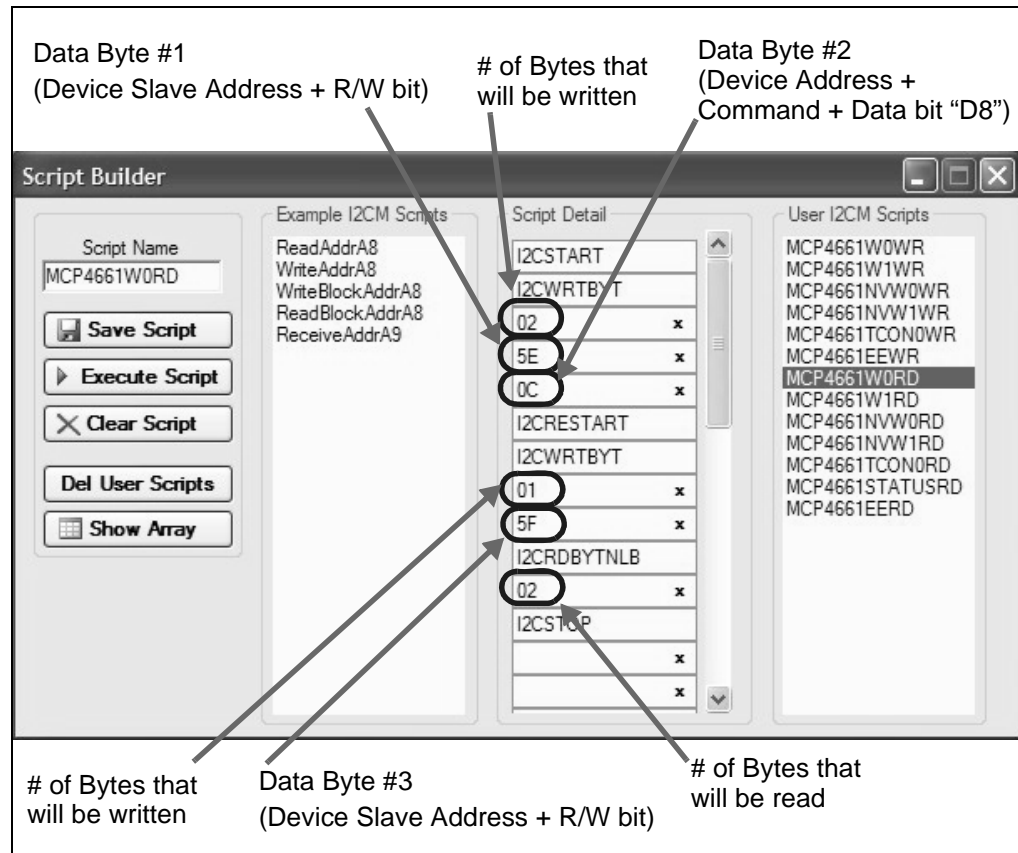

FIGURE 2-14: Example Read Script.
Double clicking on the MCP4661WORD User I2CM Script will load the script details. Figure 2-14 shows what the values mean in the Script Details. These values are hex numbers.
11. Select the “MCP4661W0RD” script in the User I2CM Scripts column. It should look like Figure 2-14.
15. Select the “MCP4661W0RD” script in the User I2CM Scripts column. It should look like Figure 2-14.
19. Select the “MCP4661W0RD” script in the User I2CM Scripts column. It should look like Figure 2-14.